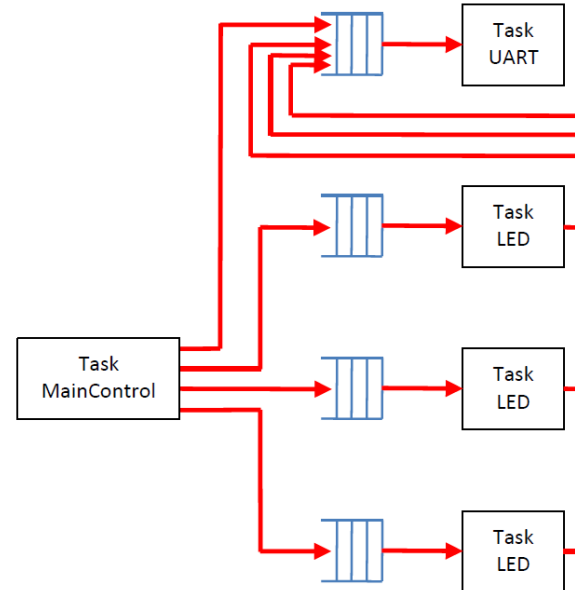

Figure 1: Intertask Communications
4. Queue Create – All of the queues created in Lab 3 are again created in Lab 4. Each queue’s purpose, as described in the Intertask Communication Figure 1, remains the same as for Lab 3. However, the queue depth for the *UART* queue should be increased from 5 to 20.